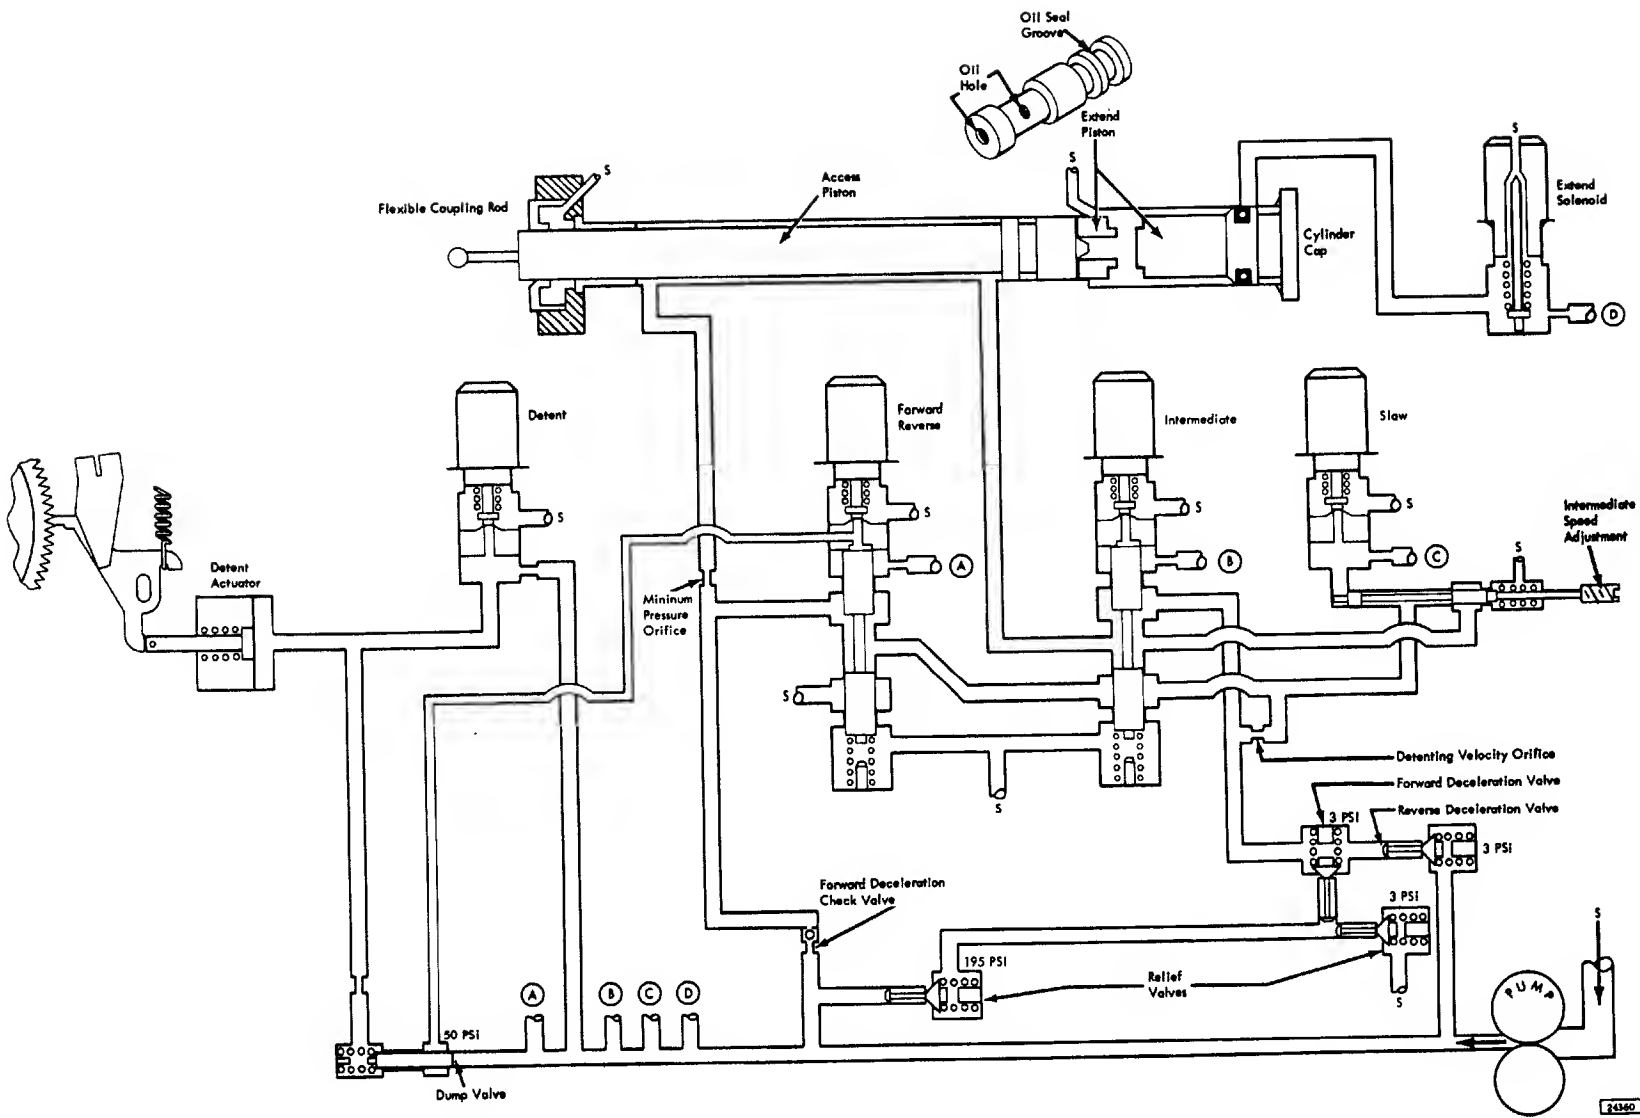

Figure 2-2. Hydraulic Actuator, Power Off
- The hydraulic actuator consists of an extend valve, an extend piston, an access piston, a direction control valve, two speed control valves, and a detent control valve (Figure 2-2).
The hydraulic actuator (Figure 2-2) consists of an aluminum cylinder and valve block, an access piston, extend piston, and the necessary control valves. Two cylinders are bored concentrically in the cylinder block. A piston operates in each of the cylinders. The smaller of the two pistons is the access piston. It is double-acting and is connected to the movable carriage, driving it to position the read/write heads. The larger piston is the extend piston. One end of this piston is of reduced diameter and extends into the access cylinder forming a stop for the access piston. The extend piston has two positions, extended and retracted. In the retracted position, the carriage is back from its accessing region to a position where the magnetic heads are clear of the disks.
Extend Piston: Movement of the extend piston between its two positions, extended and retracted (Figures 2-2 and 2-3), is controlled by the extend solenoid valve. After the disk drive reaches operating speed, the extend solenoid is picked, the valve closes, and full hydraulic pressure is applied to the back face of the extend piston. This force keeps the piston seated against a positive stop in the extended position, where it remains during power-on. At this position, the extend piston acts as a cushioned stop for the access piston and establishes the carriage position called hydraulic home. At this time, the R/W heads are protruding into the disk pack approximately 1-1/2 cylinders before cylinder 000.
Power Off (Figure 2-2)
- With the extend solenoid not energized, the oil flows to the sump at the extend solenoid and the extend piston stays to the far right position (Figure 2-2).